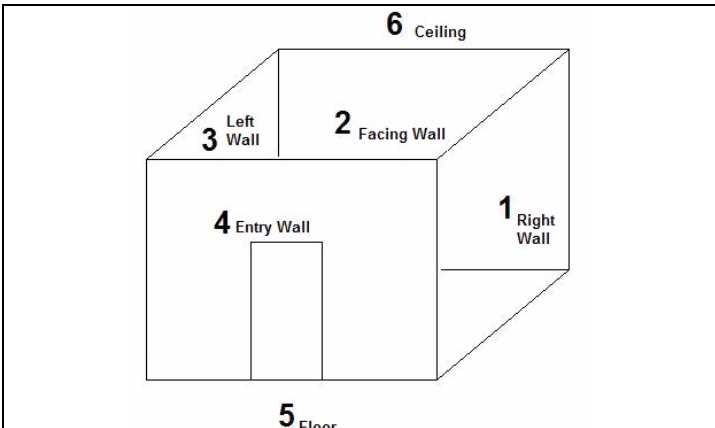

Figure 7
- ii. See Figure 7 for standardized wall numbers.